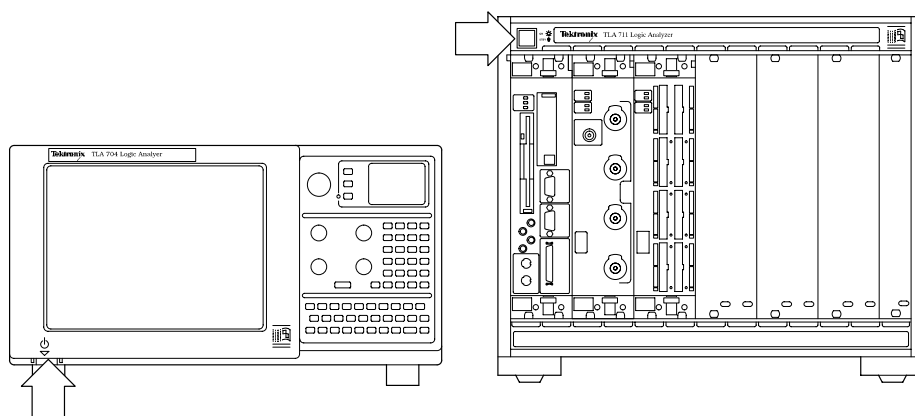

Figure 7: On/Standby switch locations
4. Press the On/Standby switch to power on the logic analyzer (see Figure 7 for the switch location).